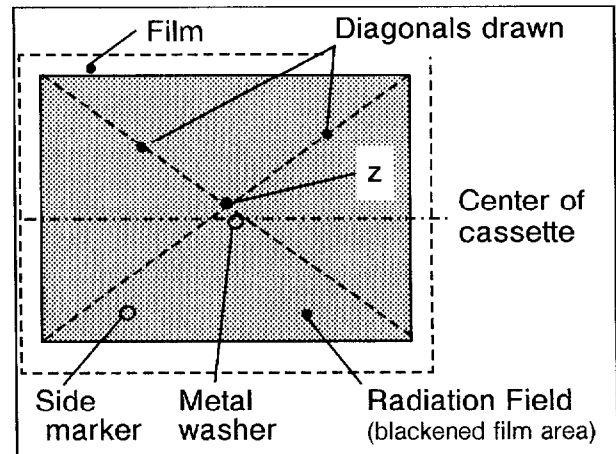

Fig. 2
- Draw the radiation field center of the two exposures onto the developed film (Fig.2).
- Measure the deviation (z/ Fig. 2) between the middle of the radiation field (washer) and the center mark on the two exposures (Z1, Z2).